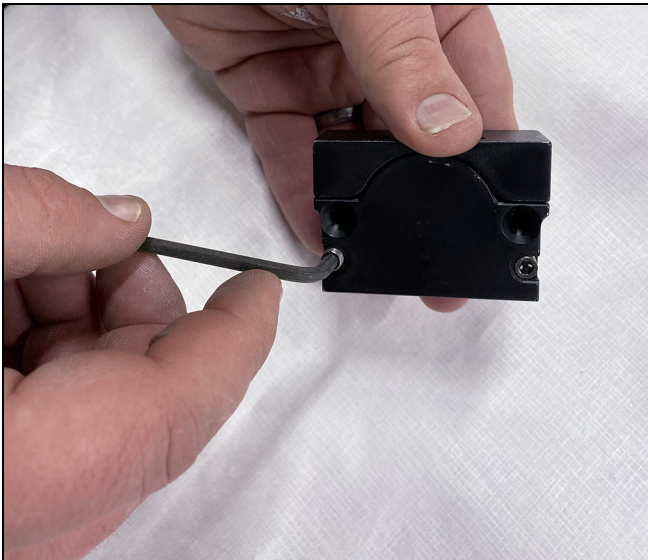

Figure 4
1. On ultimate MSD only: Remove the cover with a 9/64" Allen wrench. See Figure 4. Remove the bottom washer, the pulley and top washer and set aside. See Figure 5. This will give you access to the side screw holes. Attach the pulley base with two #8 x 3" screws into the side RO. See Figure 6. Replace the washers, pulley and cover in the reverse order you removed them.